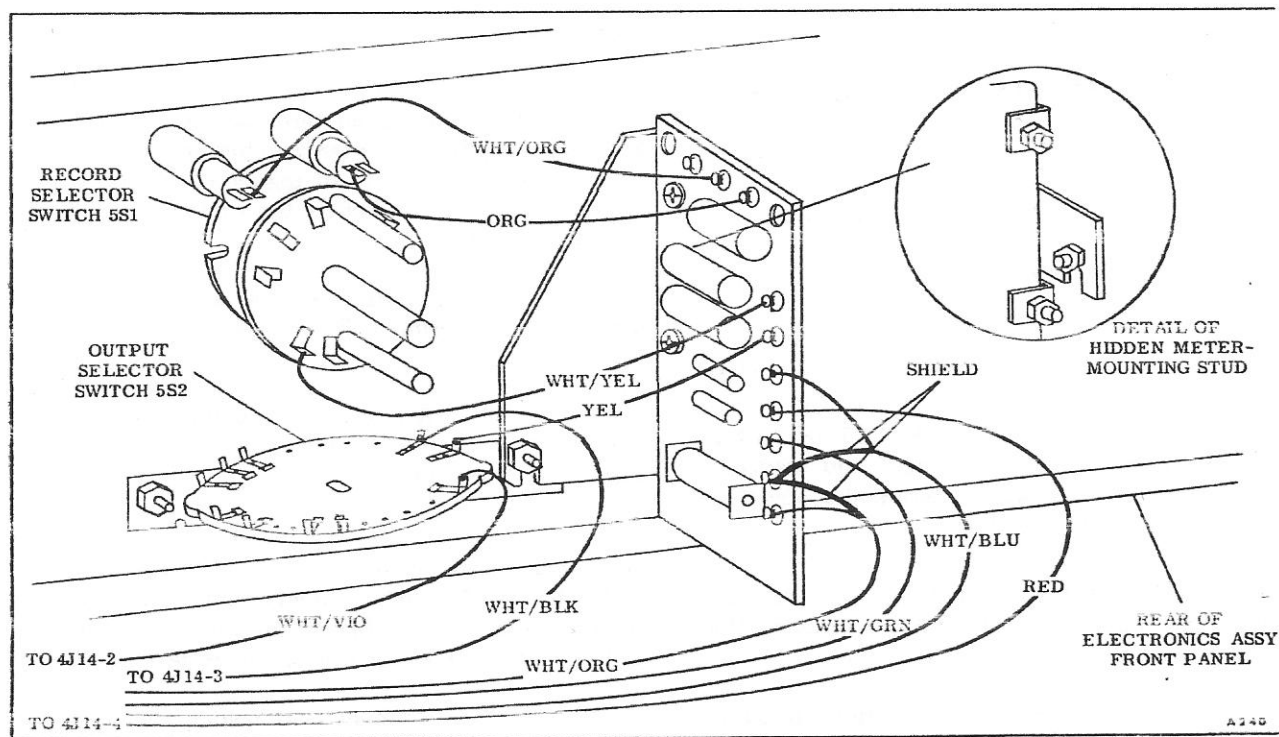

Figure 2-1. Installation in Electronics Assembly
k. Locate OUTPUT SELECTOR switch 5S2 (see Figure 2-1). Unsolder the following shielded cables from the switch:
m. Connect and solder the following wires to OUTPUT SELECTOR switch 5S2 (see Figure 2-1).
n. Locate RECORD SELECTOR switch 5S1 (see Figure 2-1) and connect and solder a length of white/yellow wire to terminal 5, together with the existing white/yellow wire.
o. Install the printed wiring board assembly, part number 4050555-01, item 9 of the kit parts list, as follows (see Figure 2-1):